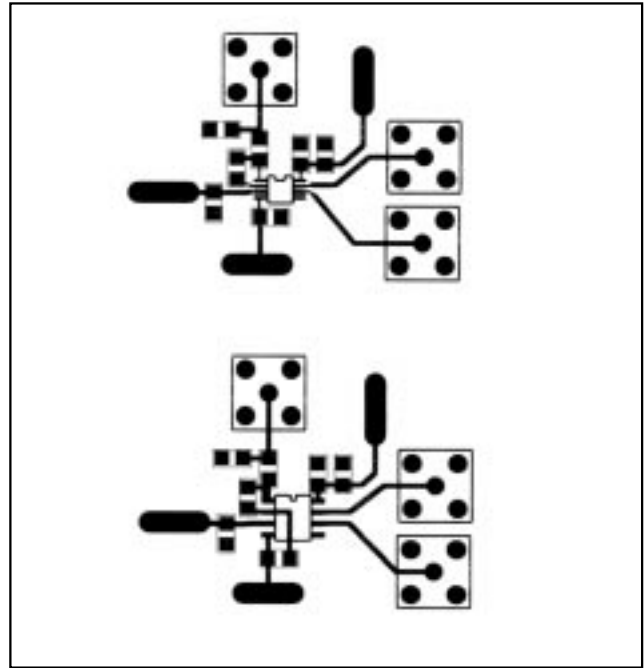

Figure 5. MAX961 PC Board Layout
- 5) Figure 5 depicts the recommended circuit layout.